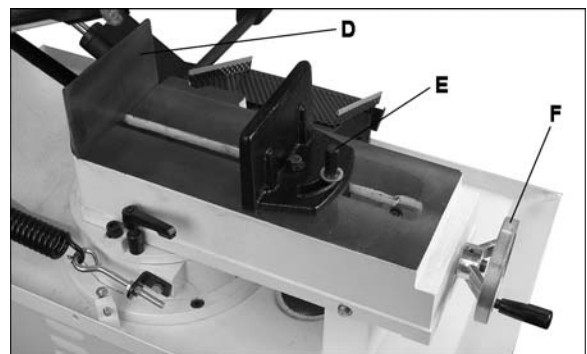

Figure 16
1. Make sure fixed jaw (D, Figure 16) has been squared (section ---, Squaring blade to vise).
3. Loosen hexagonal stud (E) on floating jaw.
4. Rotate handwheel (F) slightly counter-clockwise, then push floating jaw by hand until it contacts workpiece and adjusts to its shape.
5. Tighten stud (E).